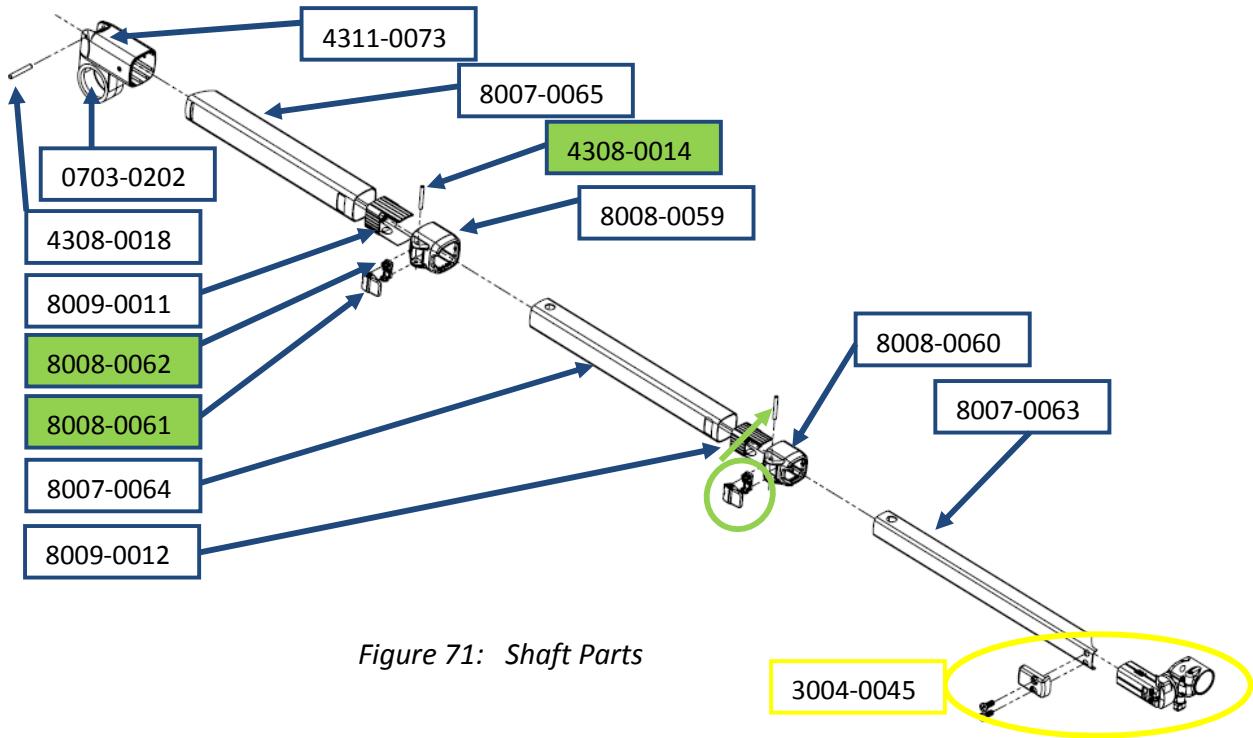

Figure 71: Shaft Parts
a. The complete shaft assembly of the detector is a line replaceable unit and Figure 71 illustrates the major parts.